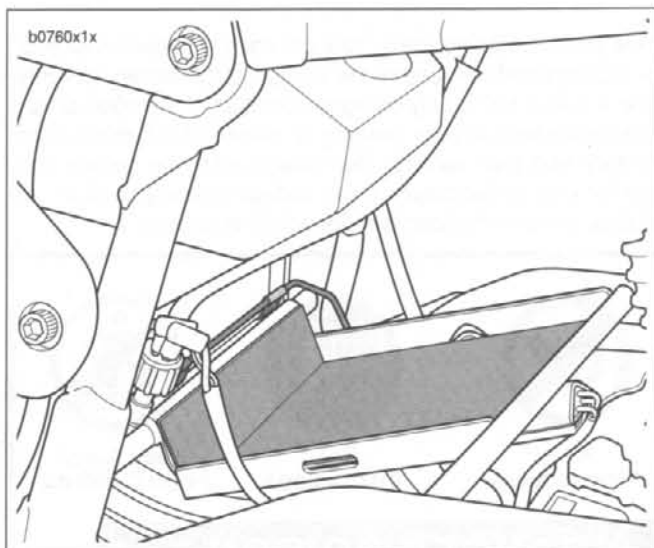

Figure 1-7. Battery Pad
2. See Figure 1-7. Place battery on battery tray pad. Insert battery from right side of motorcycle.